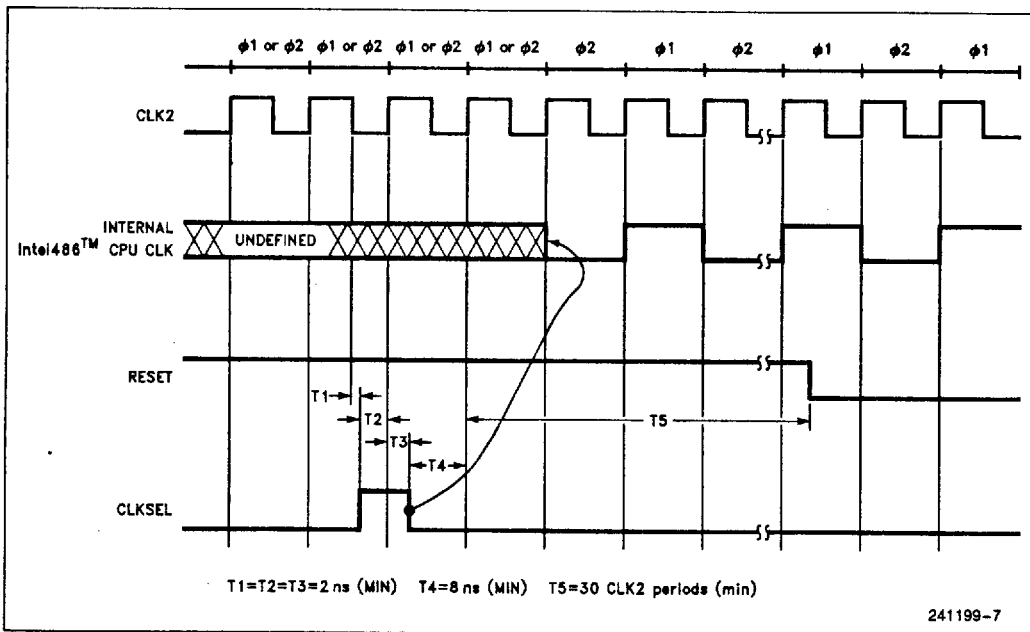

Figure 1-7. CLKSEL Timing Definition during Power-Up Reset
Figure 1-7 shows the detailed timing definition of this pulse. The pulse on CLKSEL pin is only required during power-up reset. During all other times including warm resets the CLKSEL pin should be driven low and must be free of spikes or glitches. After the power-up reset, the system must track the phase of CLK2 at all times including during warm resets so that the input/output signals can be sampled at the appropriate clock edge. The phase relationship is described in the next section.
1. Frequency can be changed at least 8 clocks after satisfying  $t_4$  (see Figure 1-7). The system can be started at a lower frequency and after satisfying the CLKSEL pulse specifications, it can be operated at the required speed.